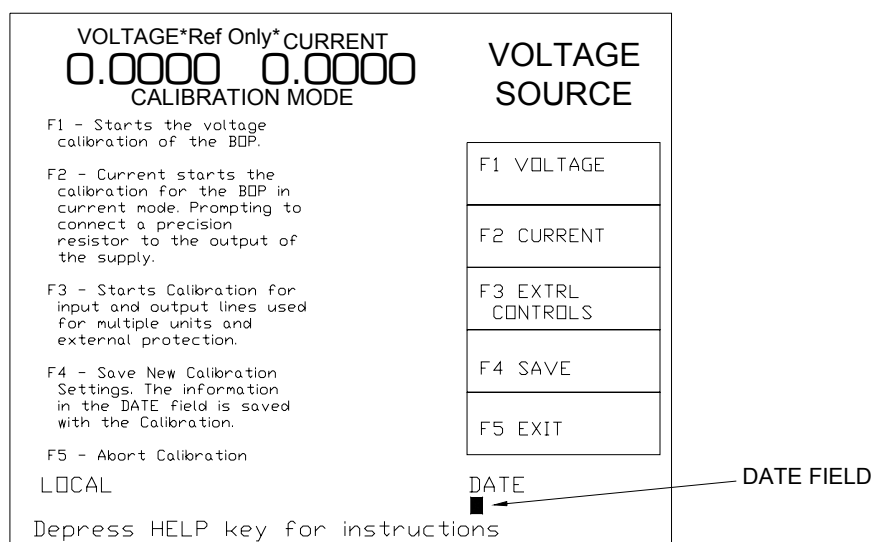

FIGURE 4-3. MAIN CALIBRATION SCREEN
2. Enter the password (see PAR. 3.2.4.4), and press . The LCD shows main calibration screen (Figure 4-3) which includes explanations for the following function keys: